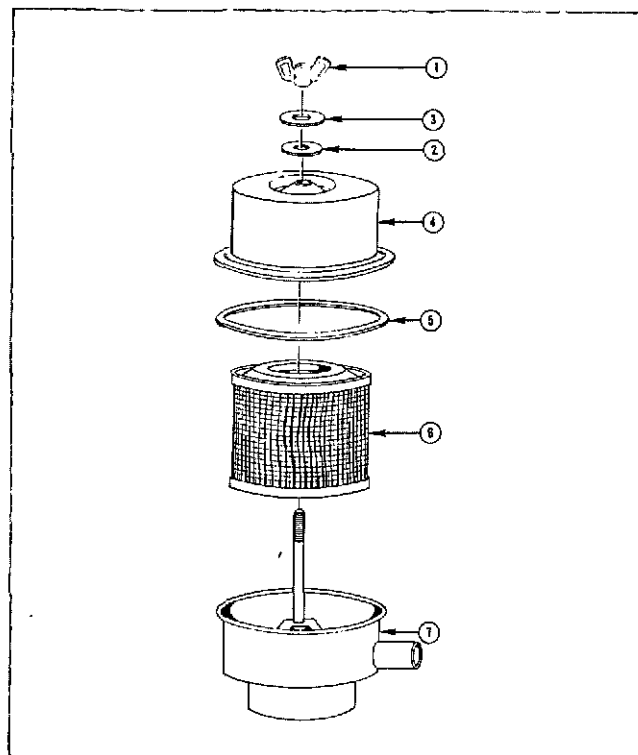

Fig. 5-23, N10310. Crankcase breather — pressed in paper element type
1. Remove wing nut (1, Fig. 5-23) flatwasher (3) and rubber washer (2) securing cover (4) and element assembly to breather.
2. Lift off cover and lift out element (6) and gasket (5).
1. Install new element (6, Fig. 5-23) over center screw in breather body (7).
2. Place cover (4) on body with gasket (5) in position.
3. Install rubber washer (2), flatwasher (3) and wing nut (1); tighten securely.